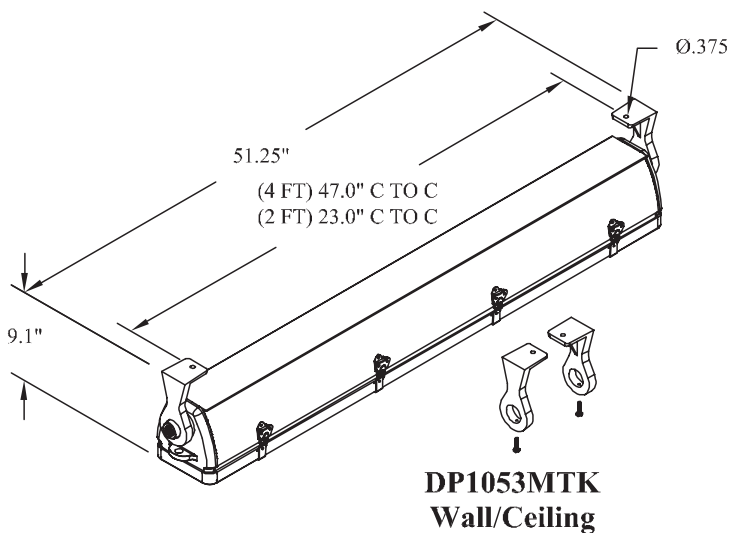

Figure 4. DP1053MTK Wall/Ceiling Mount Installation
2. Mark and drill holes for fastening end brackets. Use two (2) 1/4" bolts (not supplied) at center to center measurements (see Figure 4).
3. Fixture is now ready for mounting. It is strongly suggested to use two (2) qualified tradespeople to proceed with the final mounting of the fixture. This is recommended to avoid any personal injury or damage to the fixture.